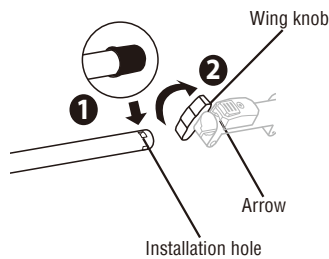

Fig.2A
1. Remove the tube protection cap before installation (Fig.2A, 1).
2. Loosen the wing knob (Fig.2A, 2).